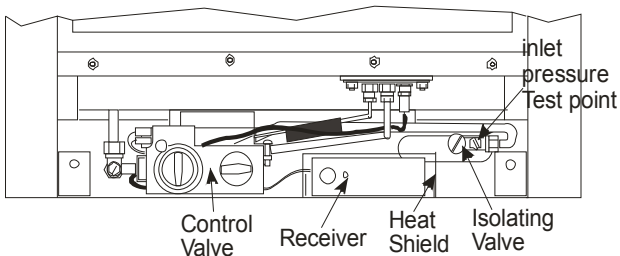

Figure 34
3. Feed the cable from the receiver unit to the spade terminals on the control valve, keeping the cable clear of the underside of the combustion chamber. The cable connectors must be matched to the appropriately sized spade connector (see Figure 34).